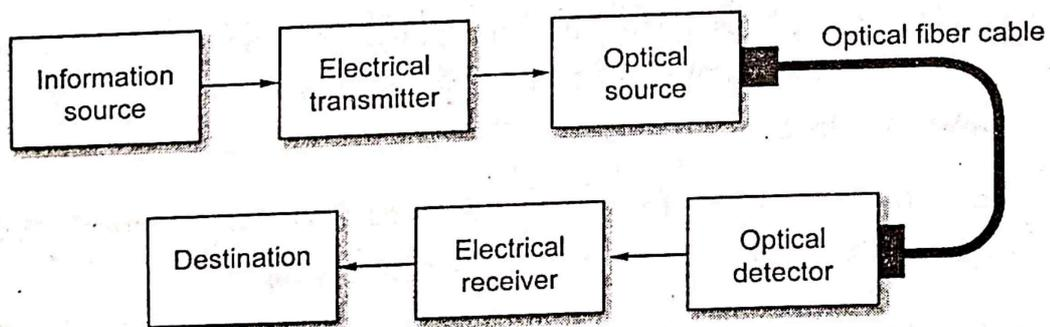

Fig 1.2 Block diagram of an optical fiber communication system
- ✦ A generalized optical fiber communication system is shown in Fig 1.2. The major elements of this system are shown in Fig 1.2 by individual blocks.
- ♣ A practical optical communication system shown in Fig 1.3 is actually much more complex than the generalized optical fiber communication system which is shown in Fig 1.2.